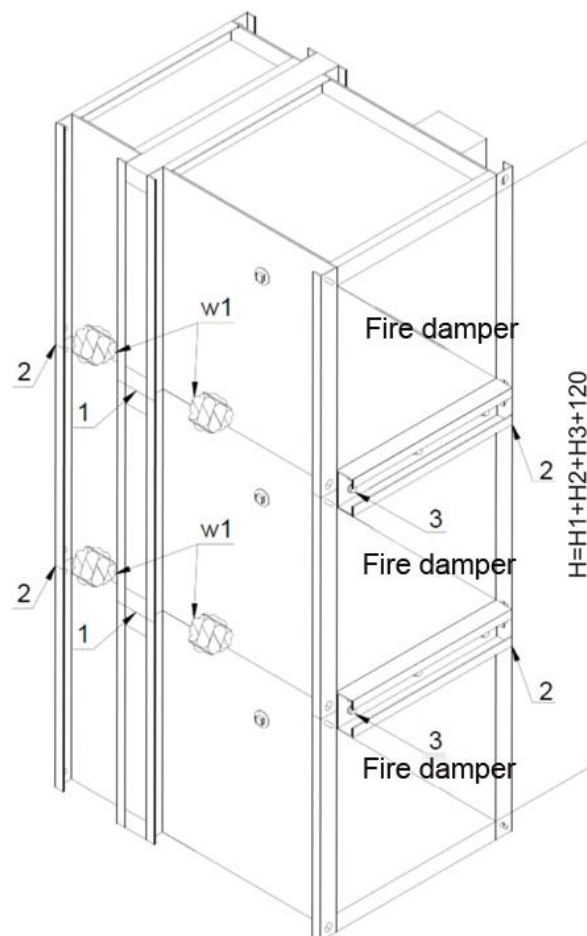

Figure 3. Arrangement 2 - vertical battery consisting of three fire dampers KWP
**Arrangement 2 – vertical battery consisting of three fire dampers KWP (Figure 3)**
1. Fix the gasket on insulating spacer of one of adjoining fire dampers (position (1) in the Figure 3).
3. Place the fire damper B on the fire damper C and assemble them together on the front and back with use of perforated assembly strips (2) and self-tapping screws M6x16 (3), which should be tightened into the openings in fire damper body. In order to carry out the correct assembly, 4 self-tapping screws should be used per each assembly strip with length of 1200 [mm].